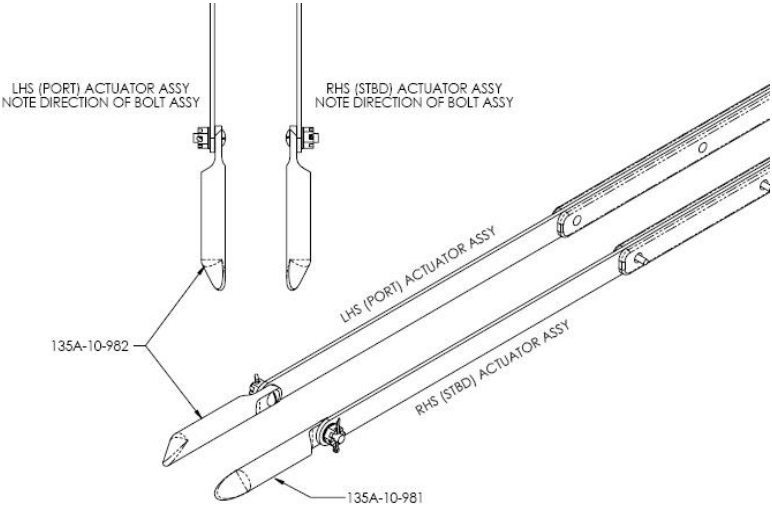

Figure 2. Door Pin and Bar Assembly.
- Rebuild the pin & bar assembly using the following: Taper pin 135A-10-981 must be added to the starboard bar, 135A-10-982 must be added to the port bar. New castellated nuts and split pins must be used throughout. **Prepare the actuator bars as shown in Figure 2 below ensuring that 135A-10-982 is on the left hand side (Port) and aligned with head of the bolt inboard and the point of pin is downward prior to installing it within the door unit. Repeat for the right hand side (starboard) door, taking care to install the assembly with the head of bolt inboard and the point of pin downward.**